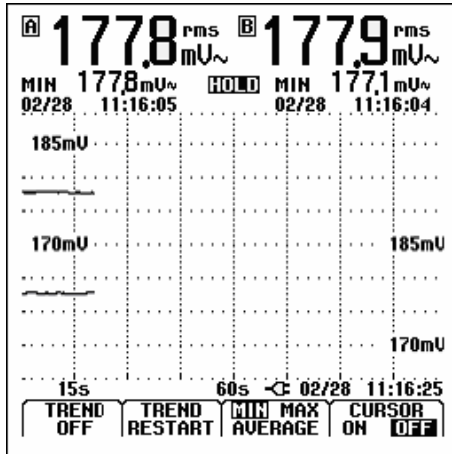

Figure 5-1. TrendPlot Reading
② **↑ ↓** Highlight TRENDPLOT
③ **F4** Start the TrendPlot. You will see a screen like figure 5-1.